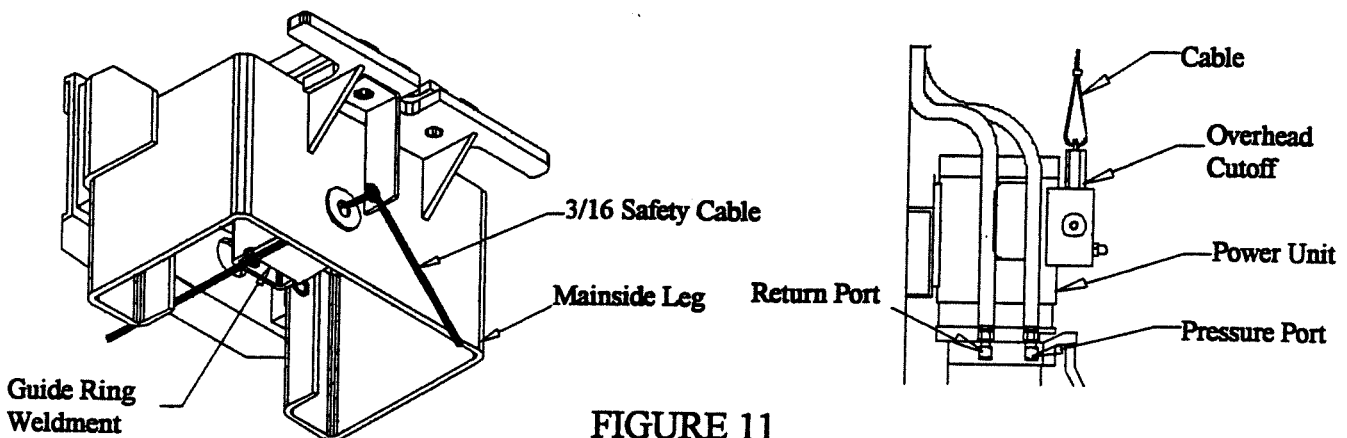

FIGURE 11
power unit as shown in Figure 11 on the previous page. On top of the conduit box of the power unit is the pull rod for the cable. Cut the cable 6" longer than the pull rod location, strip 8" from this end of the cable, and attach with a threaded clamp. The cable should not have any slack, but it should not hold the plunger off the limit switch inside the conduit box as indicated by the switch "clicking". Check and adjust if necessary. Put a dab of grease on the rings where the cable rubs the ring.
24. The power unit has two ports on its left side. On this side, the port on the left is the **return port**. The port on the right is the **pressure port**. See Figure 11 on previous page. Attach a 3/8" male pipe to 3/8" male JIC 90 elbow to the return port. Attach a 9/16" O-ring to 3/8" male JIC 90 elbow to the pressure port.